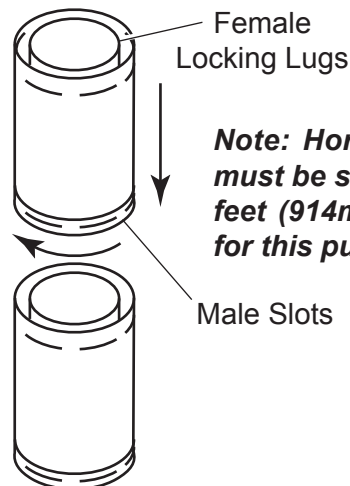

Figure 21 - Rigid Vent Pipe Connections
Twist-lock Procedure: The female ends of the pipes and fittings have three locking lugs (indentations). These lugs will slide straight into matching slots on the male end of adjacent pipes and fittings. Push the pipe sections together and twist one section clockwise approximately one-quarter turn until the sections are fully locked. See Figure 21.
2. Assemble the desired lengths of pipe and elbows necessary to reach from the burner system flue up through the firestop. Be sure pipe and elbow connections are fully twist-locked. See *Figure 21*, page 21.